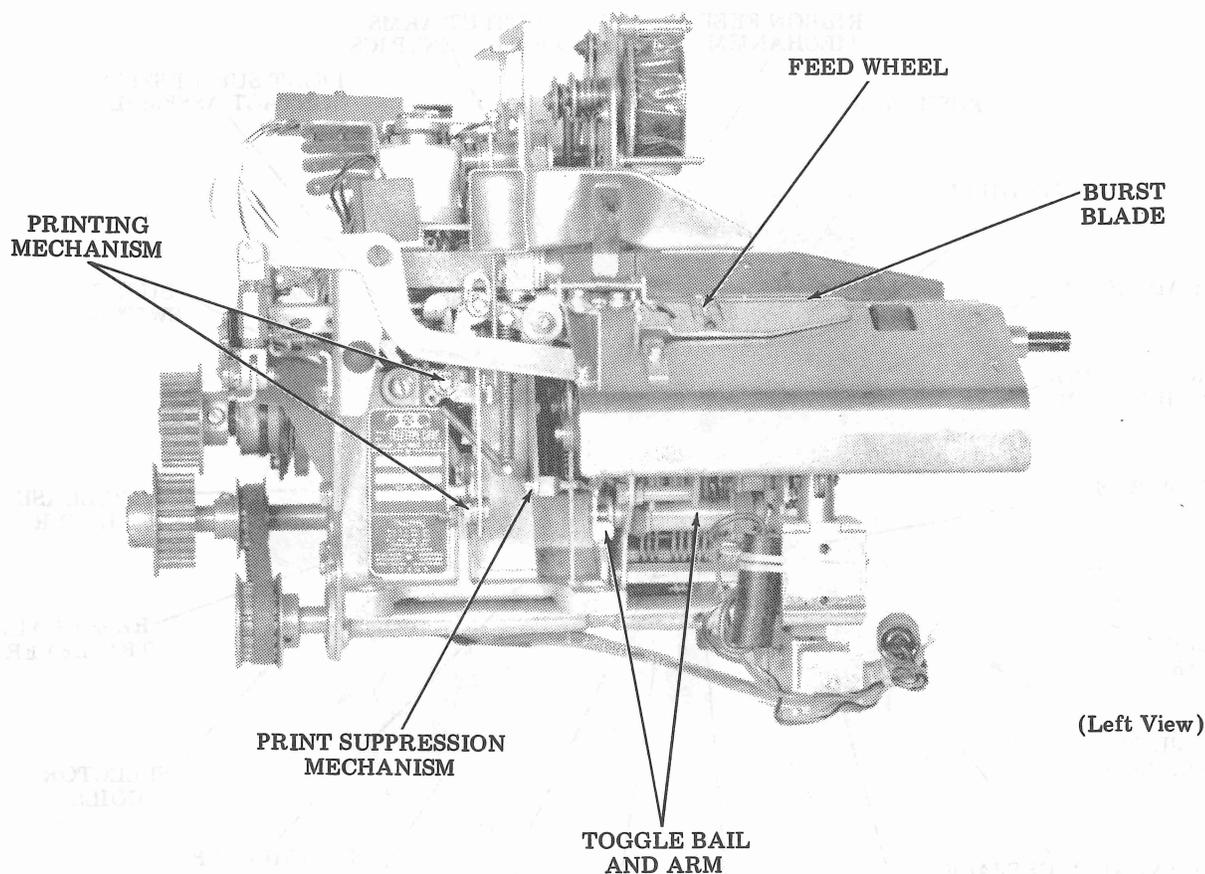

Figure 3 - 35 Edge Punched Card Typing Reperforator
2.11 Remove the nut (TP3599) and the shoulder screw (TP102057) holding the blade (TP309271) to the upper clevis (TP309212 — Figure 3). Remove the nut (TP3598) and the shoulder screw (TP128271) holding the blade to the bracket (TP309262). Remove the blade.